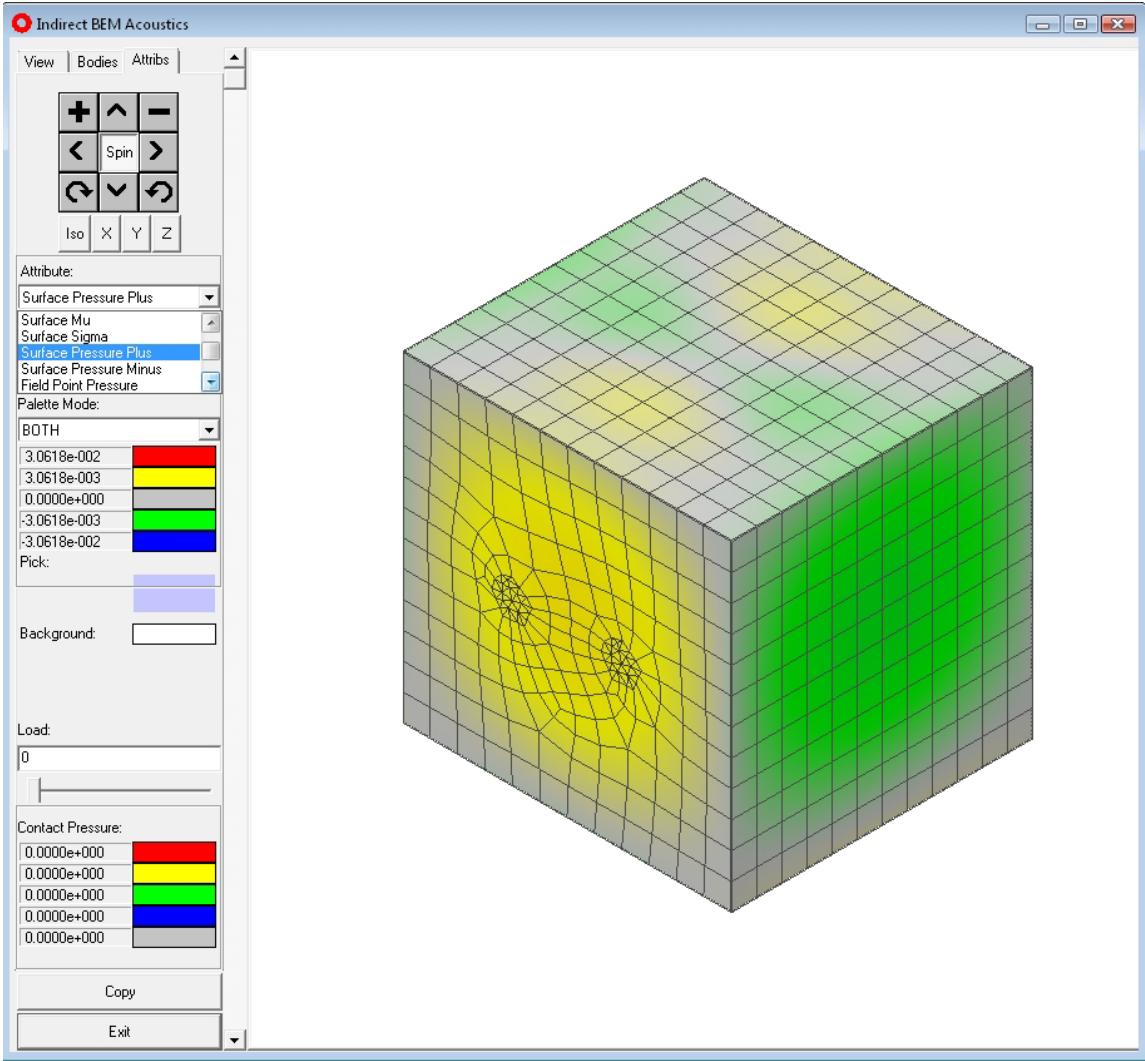

Figure A.48 IGlass viewer showing sound pressure distribution on the exterior surface of the housing at 760 Hz.
A.5.3.4. *iglass.cgl* *IGlass* files are post-processing data files created by Coustyx to visualize the acoustic analysis results. Refer to Figure A.48.